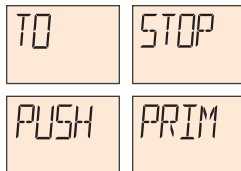

Figure 2-28 TO STOP PUSH PRIM (POUR ARRÊTER APPUYER SUR AMORÇER)
4. L'écran affichera TO STOP PUSH PRIM (POUR ARRÊTER, APPUYER SUR AMORCER) (Figure 2-28).